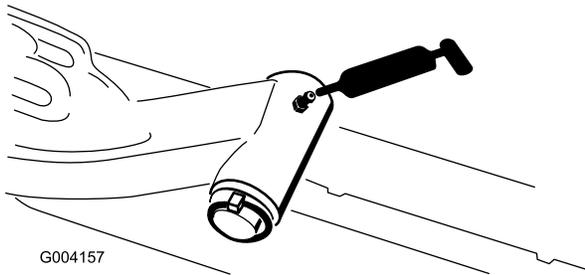

Figure 56
- Lift arm pivot shaft (1 each) (Figure 56)